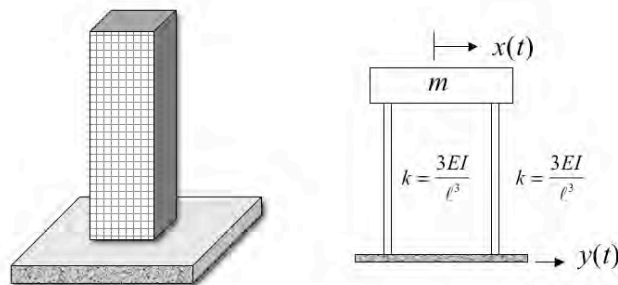

Figure P2.50 A simple model of a building subject to ground motion, such as an earthquake.
- 2.50** Consider the simple model of a building subject to ground motion suggested in Figure P2.50. The building is modeled as a single degree of freedom spring-mass system where the building mass is lumped atop of two beams used to model the walls of the building in bending. Assume the ground motion is modeled as having amplitude of 0.1 m at a frequency of 7.5 rad/s. Approximate the building mass by 10^5 kg and the stiffness of each wall by 3.519×10^6 N/m. Compute the magnitude of the deflection of the top of the building.